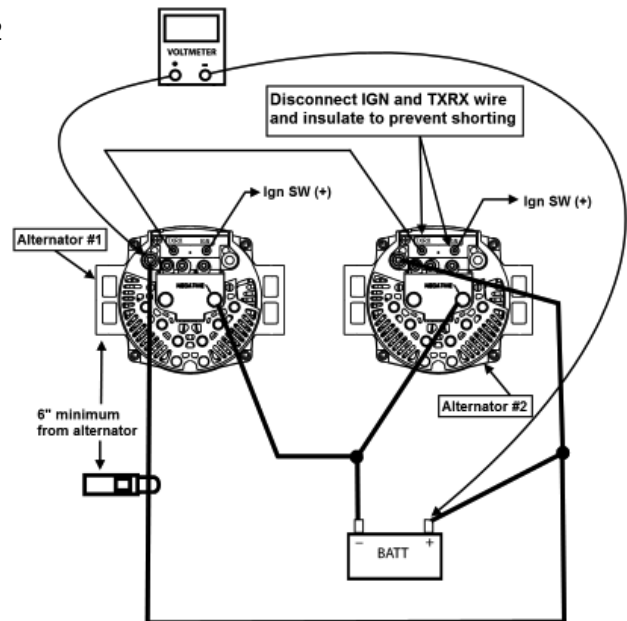

Fig 4
1) Connect voltmeter and ammeter per Fig 4.